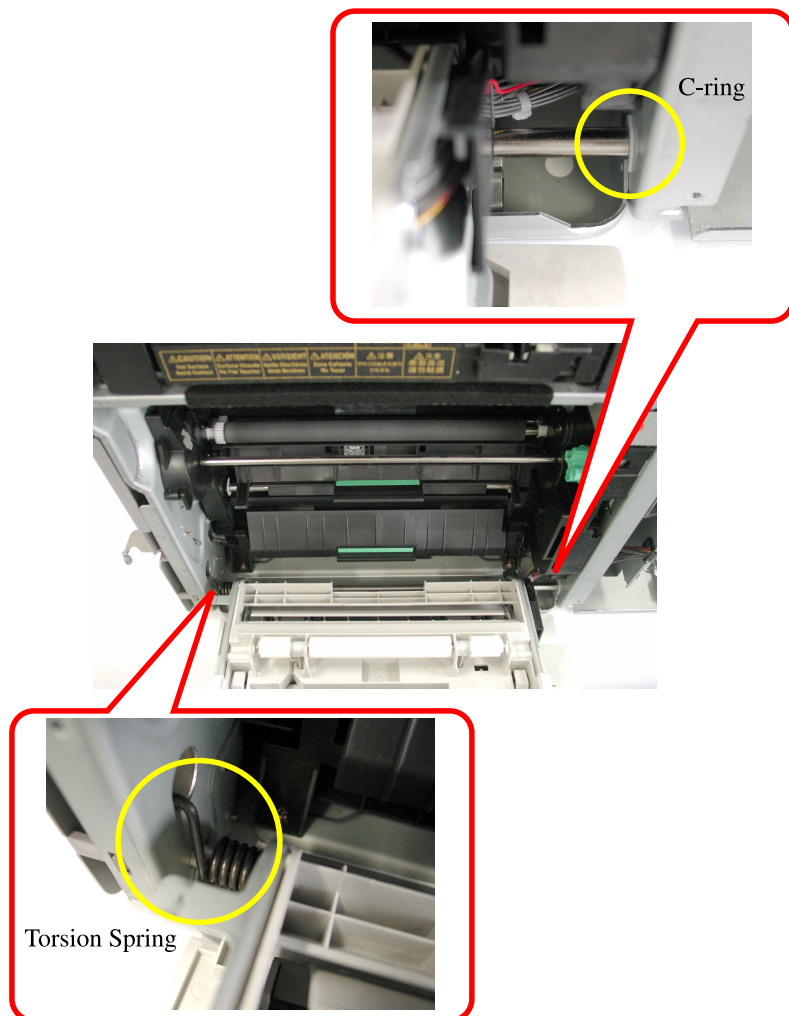

Figure 4-15. Right Door Removal 2
7. Remove the two resin C-rings (white) put on the retaining shaft at its right end. (See "Figure 4-15 (p.180)")